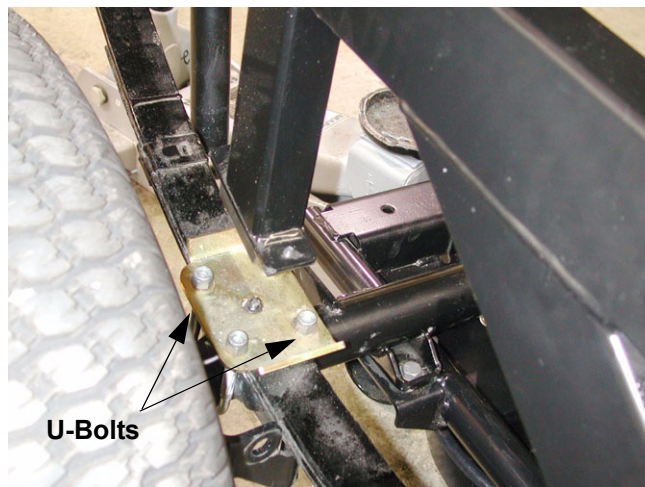

Figure 7.24
- 7.24. Remove the U-bolts holding each spring to each axle tube using a 9/16" wrench. See Figure 7.24.